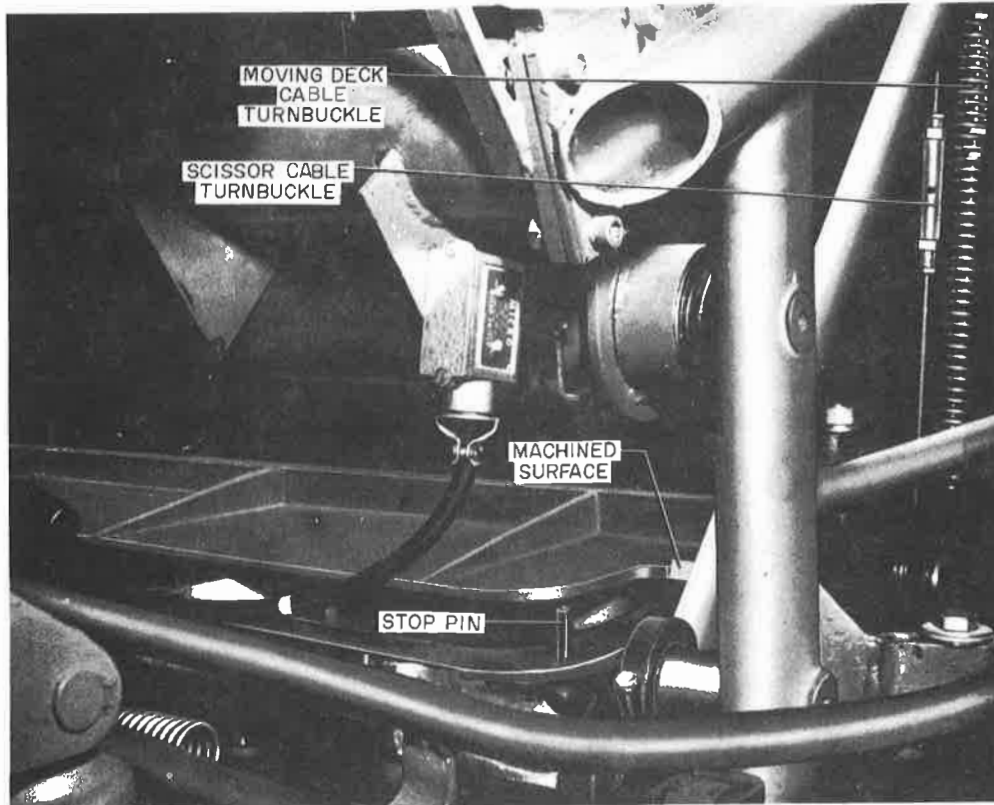

Figure 67. Moving Deck and Scissor Cables Adjustment
9. MOVING DECK CABLE ADJUSTMENT. (FIGURE 67)
10. SCISSOR CABLE ADJUSTMENT. (FIGURE 67)